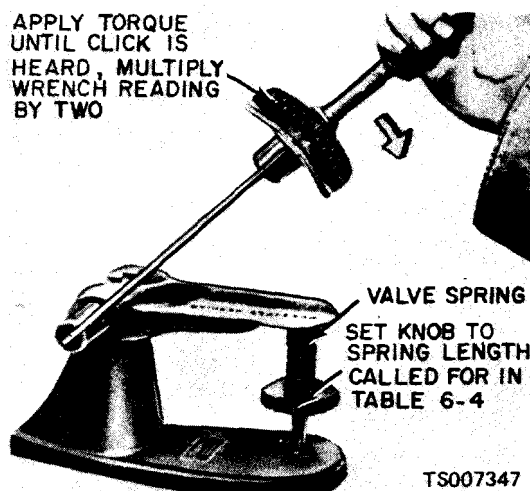

Figure 6-18. Checking Valve Spring Pressure.
a. Checking Spring Pressure. Check the valve spring for proper pressure as shown in figure 6-18 at the specified spring lengths. Weak valve springs cause poor performance; therefore, if the pressure of any spring is lower than the wear limit, replace the spring. See table 6-4 for dimensions and readings.